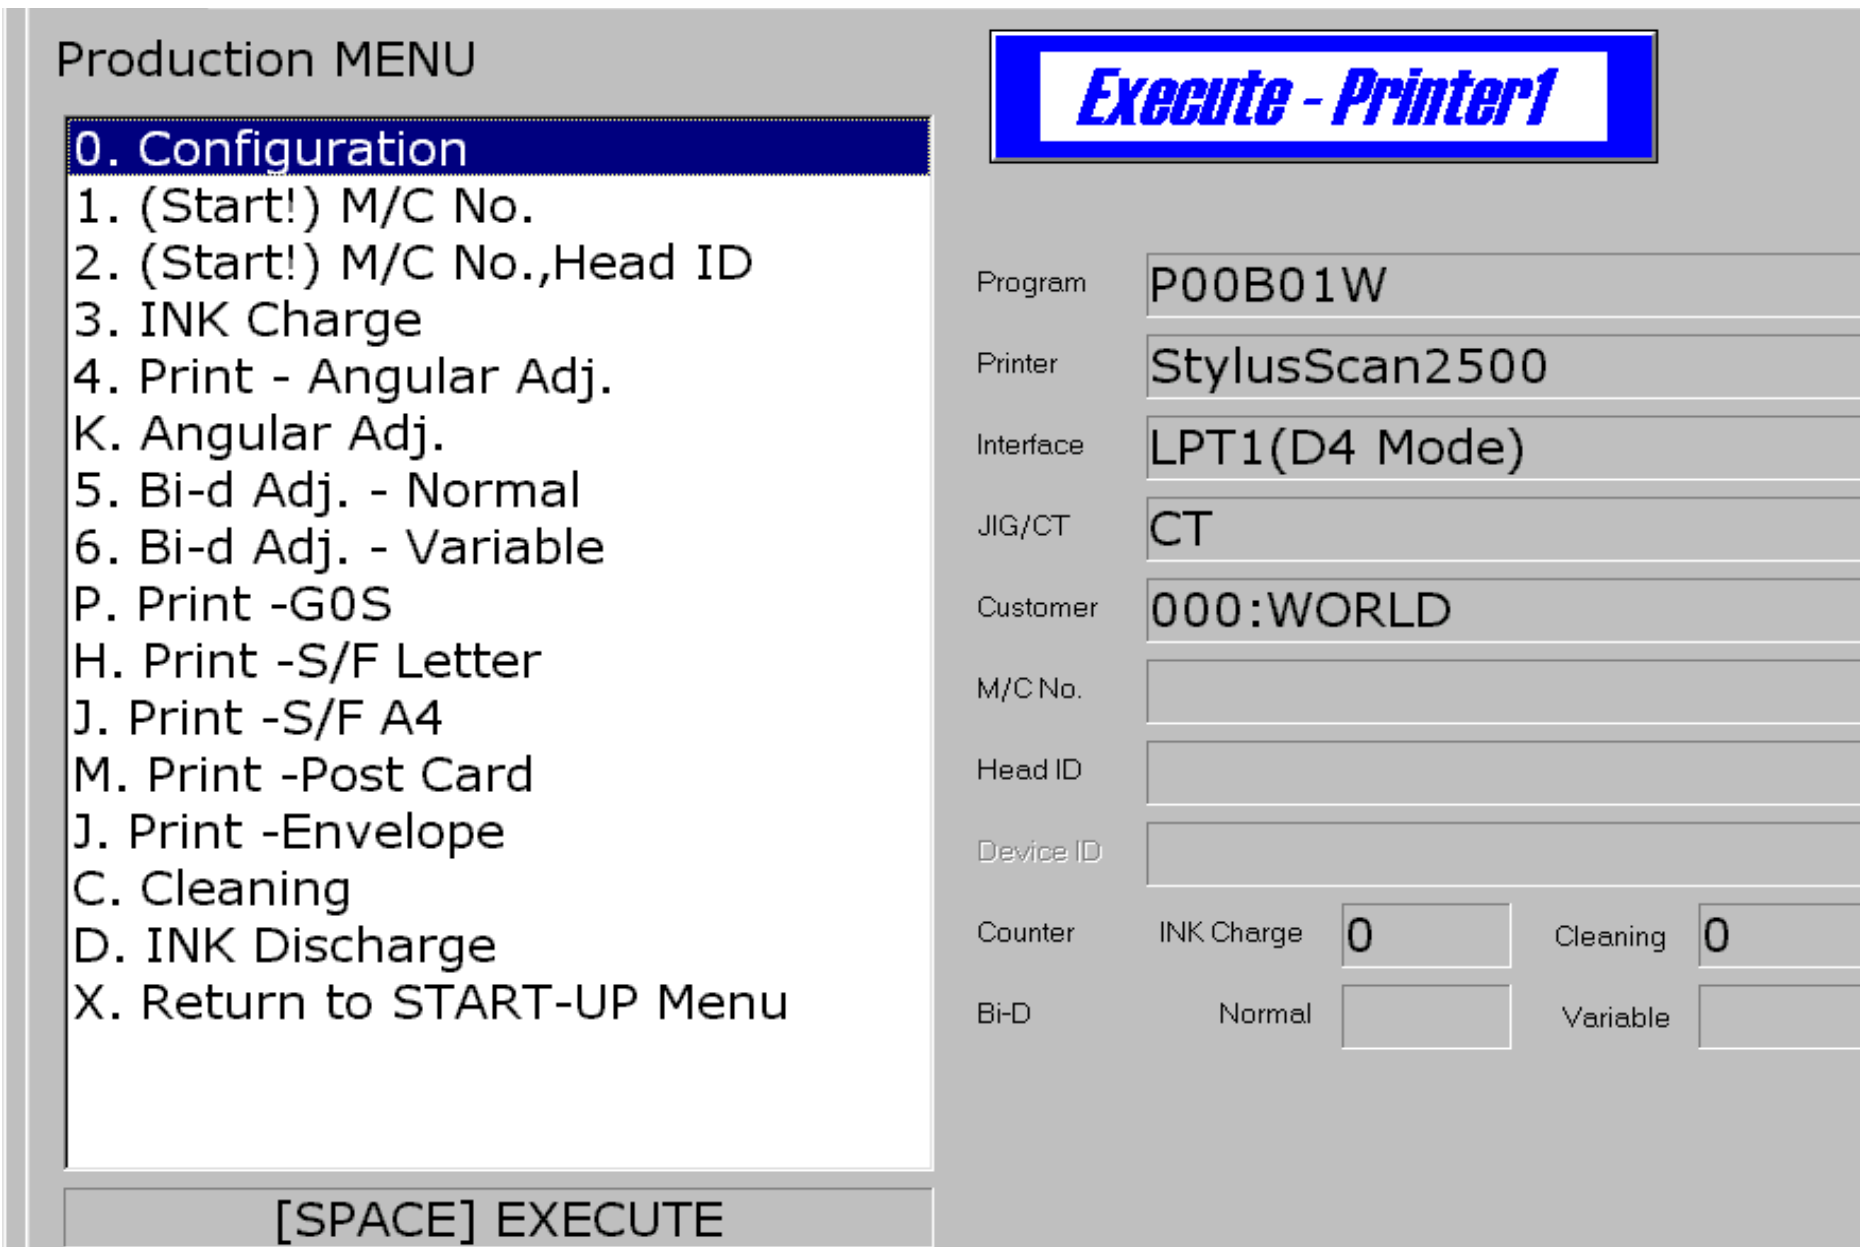

Figure 5-6. Production Menu
2. On the Production menu (Figure 5-6), select **Ink Charge**. Then click OK in the dialog box that appears.
2. On the Production menu (Figure 5-6), select **Bi-d Adj. - Normal**. The Bi-d Adjust dialog box appears.
2. On the Production menu (Figure 5-6), select **Cleaning**. Then click OK in the dialog box that appears.
2. On the Production menu (Figure 5-6), select **Head ID**. Then click OK in the dialog box that appears.
3. On the Production menu (Figure 5-6), select Print - **Angular Adj.** The following patterns are printed.
2. On the Production menu (Figure 5-6), select Ink Discharge. Click OK in the following dialog box.